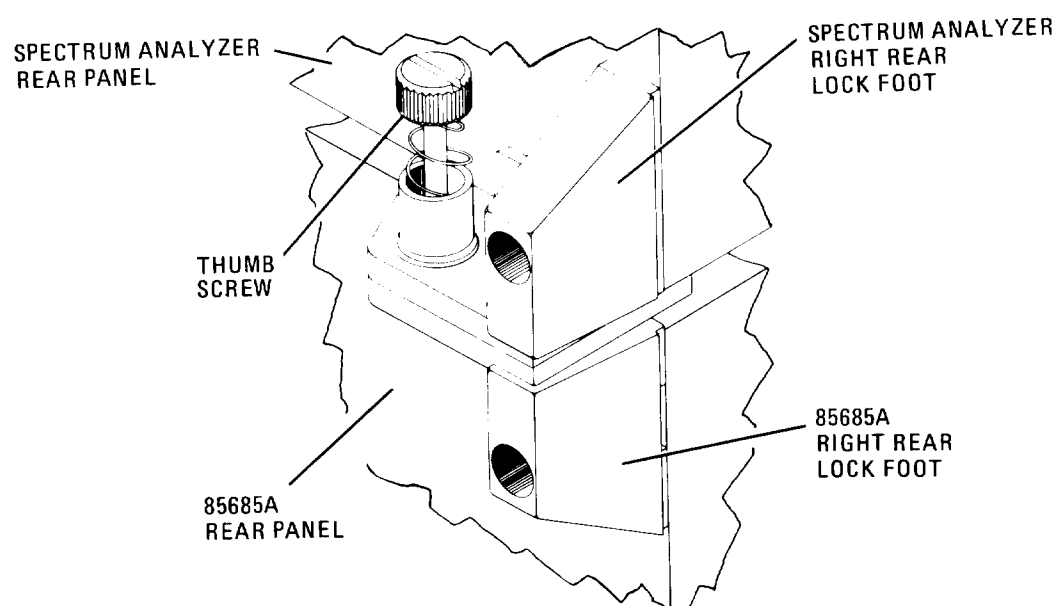

Figure 1-7. Securing the Lock Feet
6. Using the thumbscrews, secure the spectrum analyzer's new bottom rear lock feet to the preselector's top rear lock feet, as in Figure 1-7.